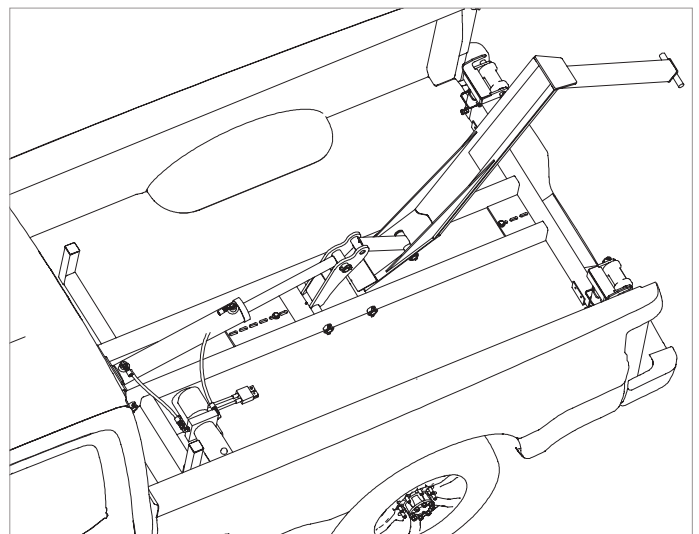

Figure 2.K
- Step 3** — Lift and set the lift arm lower pivot between the frame rails at the rear most pair of bushings, as shown in (Figure 2.J).